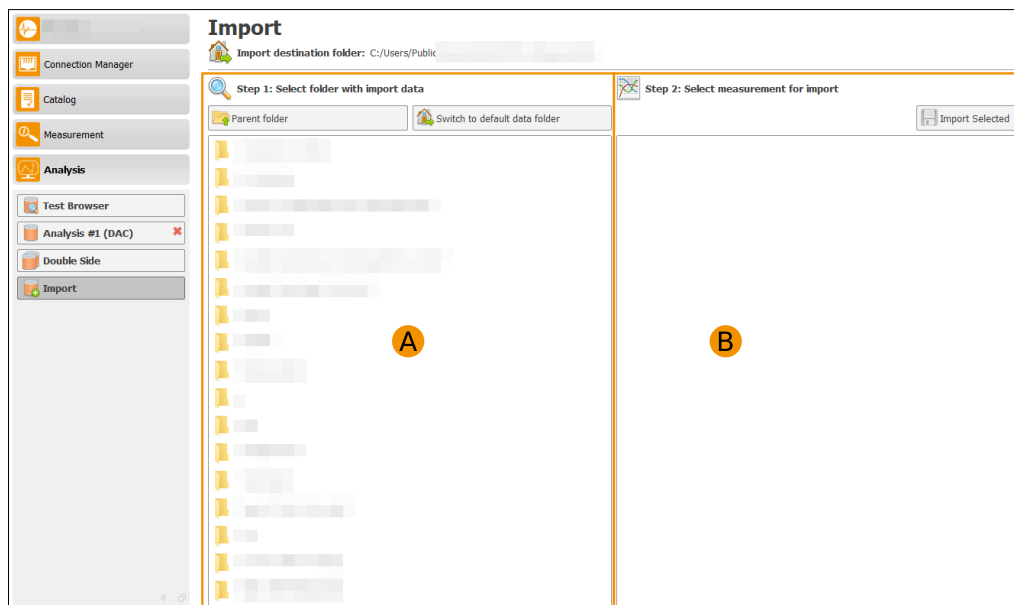
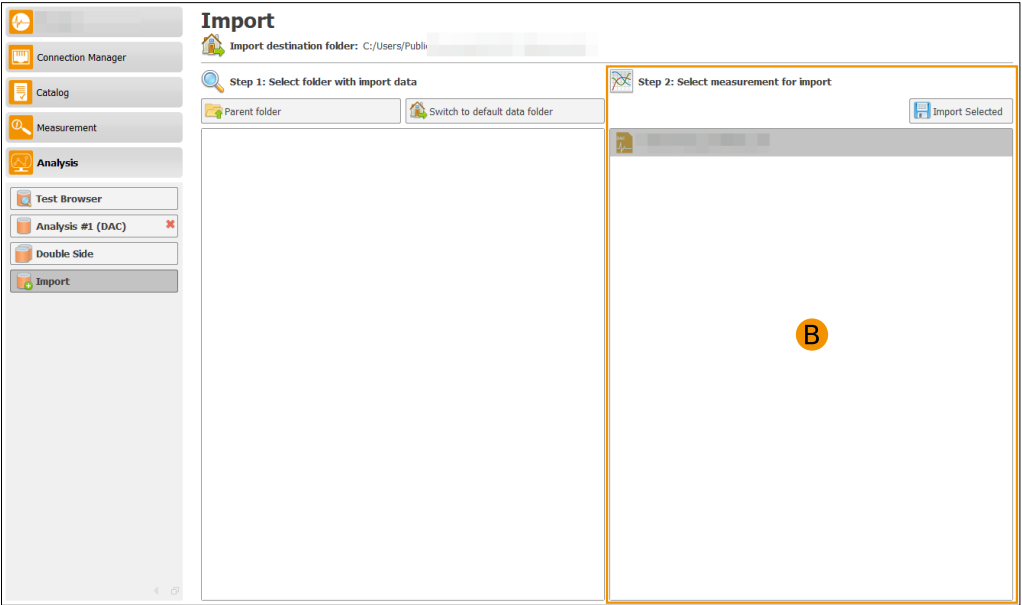
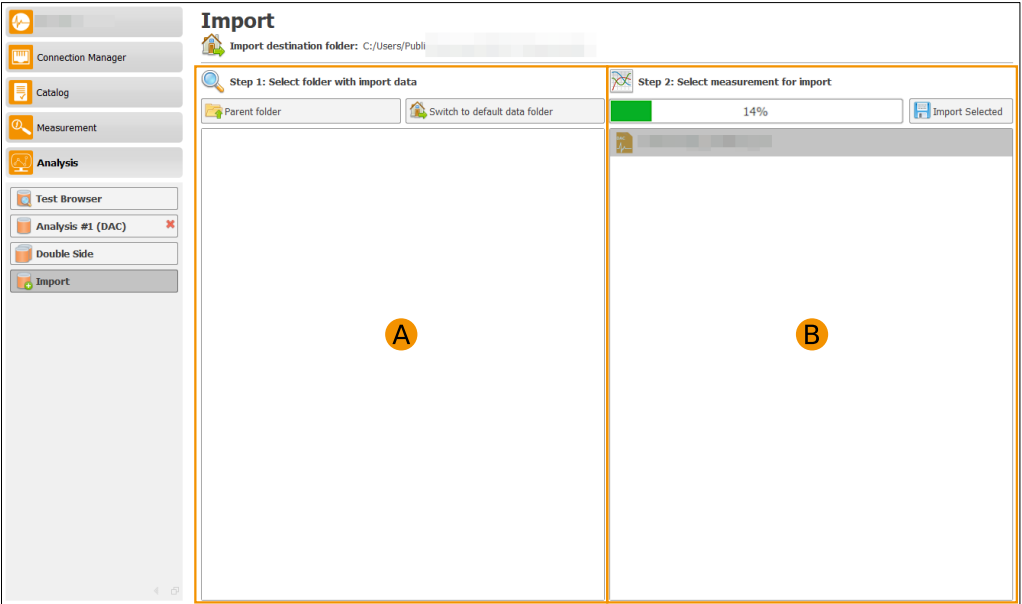
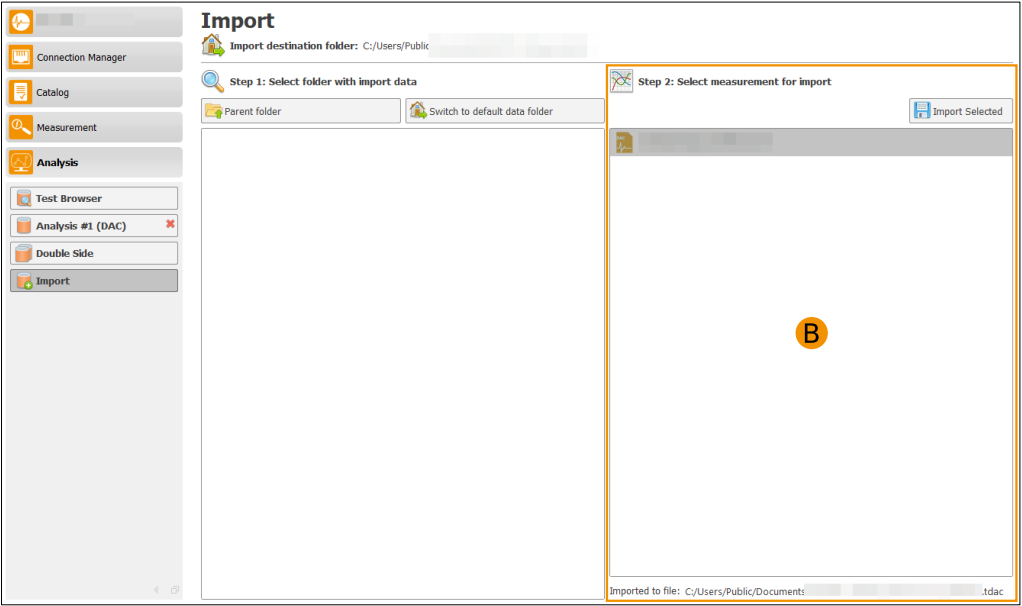

Figure 8.28: Selection for import folder
Figure 8.29: File selection for the import
Figure 8.30: Progress of the import
Figure 8.31: Data import finished
For importing data, select the sub application *Import*. The import is divided into two areas (see Figure 8.28). The left pane (A) contains a selection window that displays all available folders. In the upper area, the *Parent folder* button allows you to move to a higher folder level. The button *Switch to default data folder* changes to the default data folder selected within the DAC catalog configuration (see Section 6.1). A simple left mouse click is used to open a folder. If there is an old measurement file in the selected folder which can be imported, this is displayed in the B area. (see Figure 8.29). By selecting the found file, the *Import Selected* button is activated and can be used to start the data import. As soon as the data import has been started, a progress bar (see Figure 8.30) appears next to the button *Import Selected*, which shows the current progress of the data import. All buttons are deactivated during the import. After the import is finished, the complete path with the file name at the bottom is displayed in the B area (cf. Figure 8.31). If the mouse pointer is moved over the path, the complete path appears as a tool tip. In order to be able to open and analyze the imported file afterwards, you have to into the *Test Browser* and select the imported file. The selection of measurement files is described in Section 8.2.1.